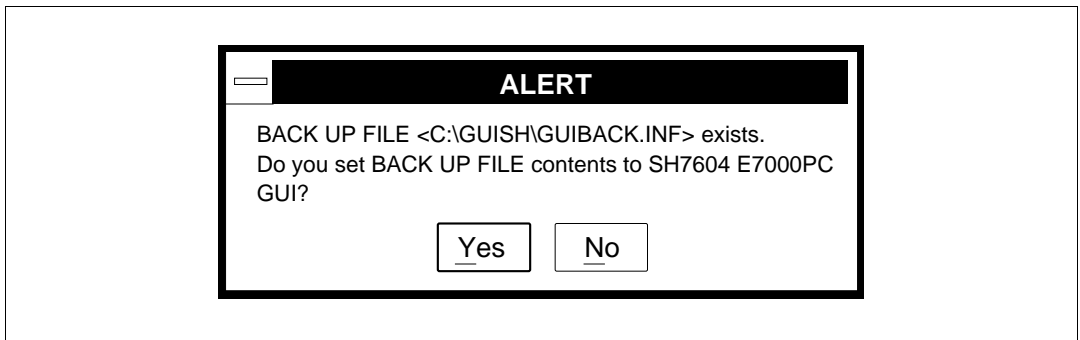

Figure 2-13 Backup File Load Confirmation Message Box
- (5) When a backup file is found, the message box shown in figure 2-13 is displayed to confirm operating environment backup file load. To load the operating environment backup file previously saved, click the <Yes> button. To initiate the GUI-SH without loading the backup file, click the <No> button.